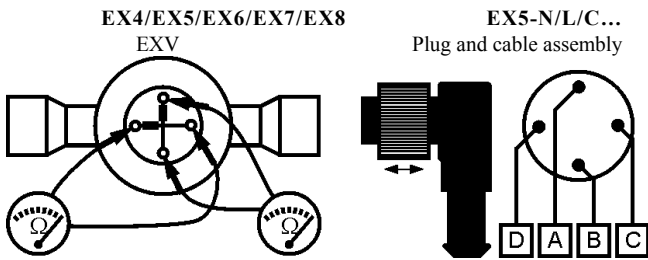

Fig. 4 EX8 (old)
• **EX8 old version (Fig. 4):**